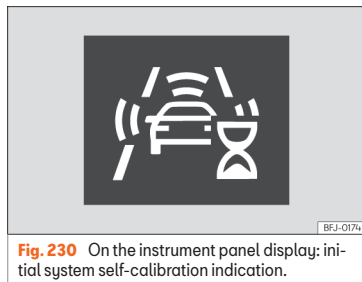

Fig. 230 On the instrument panel display: initial system self-calibration indication.
- In the first few instants of driving after switching on the ignition, due to the system's initial auto-calibration. During this period, a status icon **»»** **Fig. 230** is displayed.